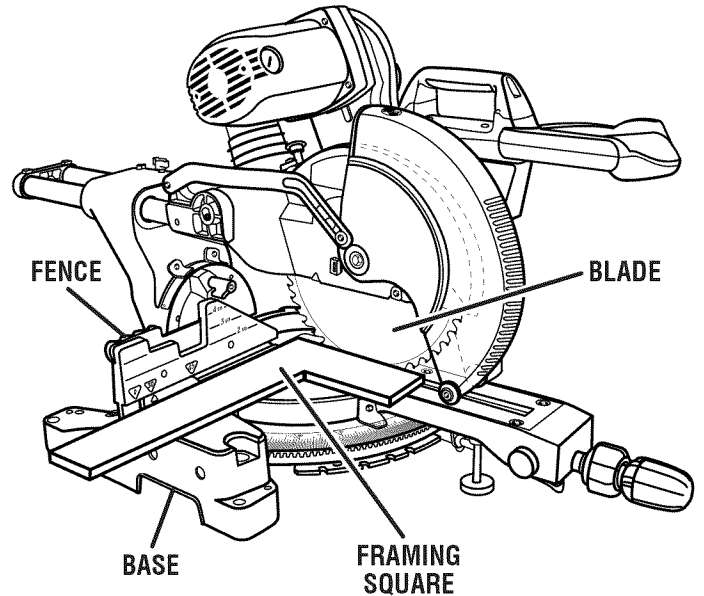

Fig. 24
- The edge of the square and the blade should be parallel as shown in figure 24.